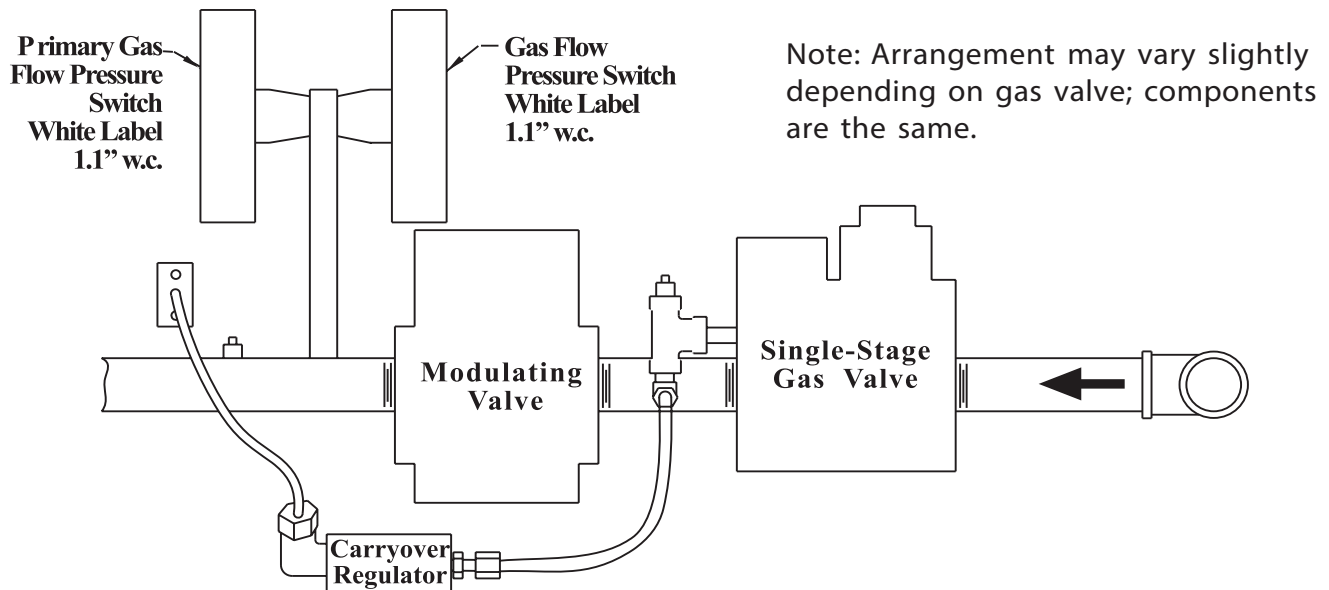

Figure 29. Option AG39 Manifold Arrangement
- The gas train (see Figure 29) includes a single-stage gas valve, a modulating valve, and two gas pressure switches. The burner rack is equipped with one flash carryover and a regulated gas lighter tube system. The carryover lighter tube receives its gas supply through the regulator simultaneously with the gas to the burner. Control of the system is through a Maxitrol amplifier (see Figure 28) with a corresponding remote temperature dial.